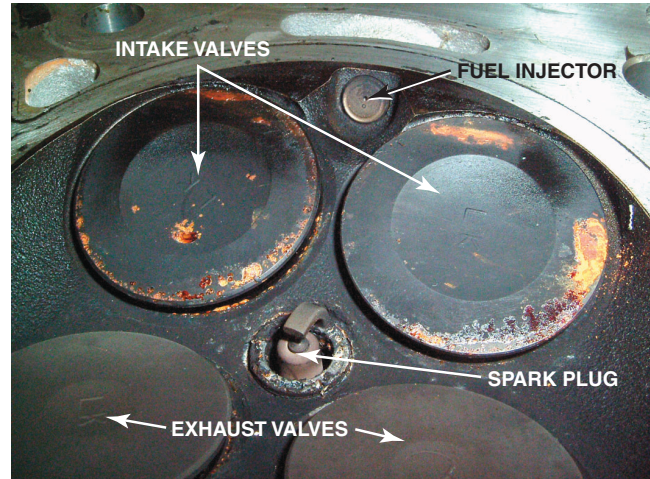

FIGURE 10 There may become a driveability issue because the gasoline direct-injection injector is exposed to combustion carbon and fuel residue.
- **On the injector itself.** Because the injector tip is in the combustion chamber, fuel residue can accumulate on the injector, reducing its ability to provide the proper spray pattern and amount of fuel. Some injector designs are more likely to be affected by carbon than others. For example, if the injector uses small holes, these tend to become clogged more often than an injector that uses a single slit opening where the fuel being sprayed out tends to blast away any carbon. ● **SEE FIGURE 10.**